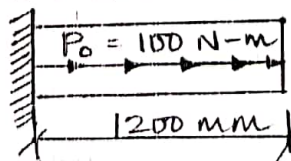

Fig. Q4 (a)
- 4 a. Determine the nodal displacement and elemental stresses for a bar subjected to uniform distributed load 'P₀' as shown in Fig. Q4 (a). Given $E = 70 \text{ GPa}$ and $A = 10^4 \text{ mm}^2$.